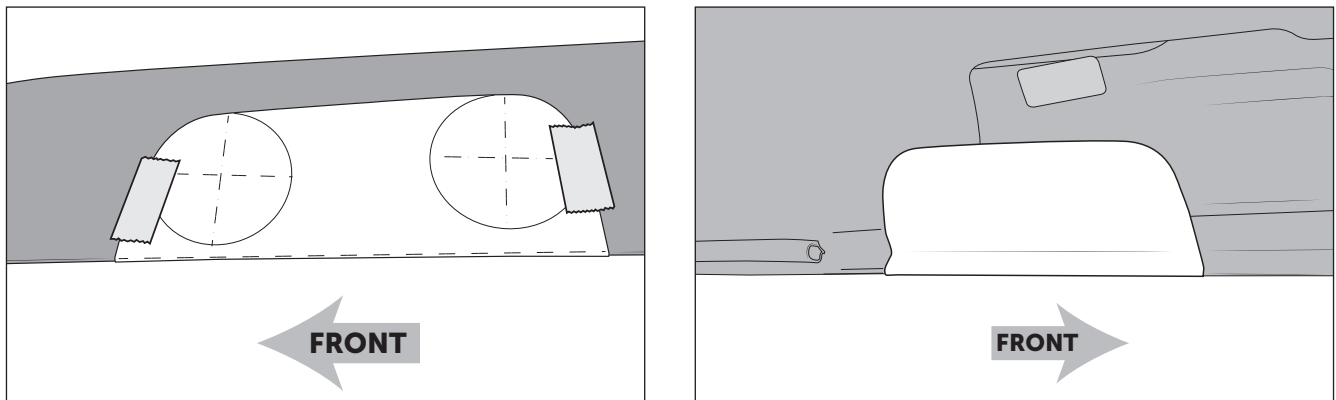

Figure 2: Outer Hood (left) Inner Hood (right)
2. Align the dotted line of the trim template with the top tangent of the hood hem. Hold template in place and trace outline onto outer hood surface. After tracing, temporarily tape template in place on outside, open the hood, and wrap the inner portion onto inner panel. Hold the template tight to the hood contour and trace the outline, including onto the corner of the hood liner. Use heavy duty scissors to trim corner of hood liner about 1/4" past the marked line, then finish tracing the template onto the hood inner (fig. 2).